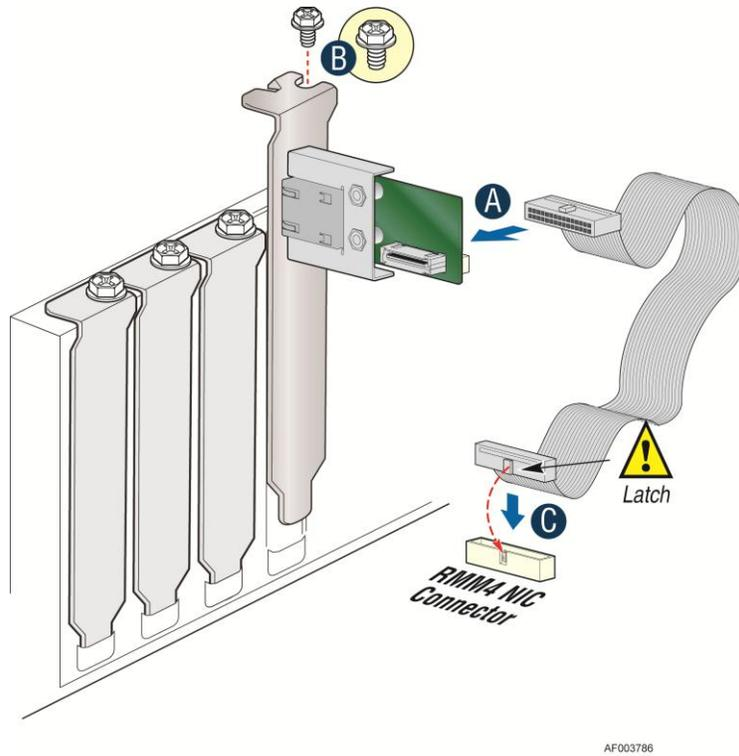

Figure 13: Adding the Intel® Dedicated Server Management NIC module on a 3rd Party Chassis
4. Attach the cable to the cable connector on the Intel® Dedicated Server Management NIC module as shown in Figure 13 (A). Mount the PCI slot bracket with NIC module to the 3rd chassis and secure with screw as shown in Figure 11 (B). Attach the cable to the RMM4 NIC connector (J5C1) on the server board as shown in Figure 13 (C).